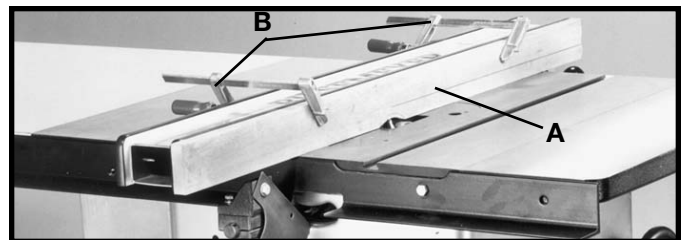

Fig. 147A
It is necessary when performing special operations such as moulding to add wood facing (A) Fig. 147A, to one or both sides of the rip fence, as shown. The wood facing is attached to the fence with two clamps (B). 3/4 inch stock is suitable for most work although an occasional job may require 1 inch facing.